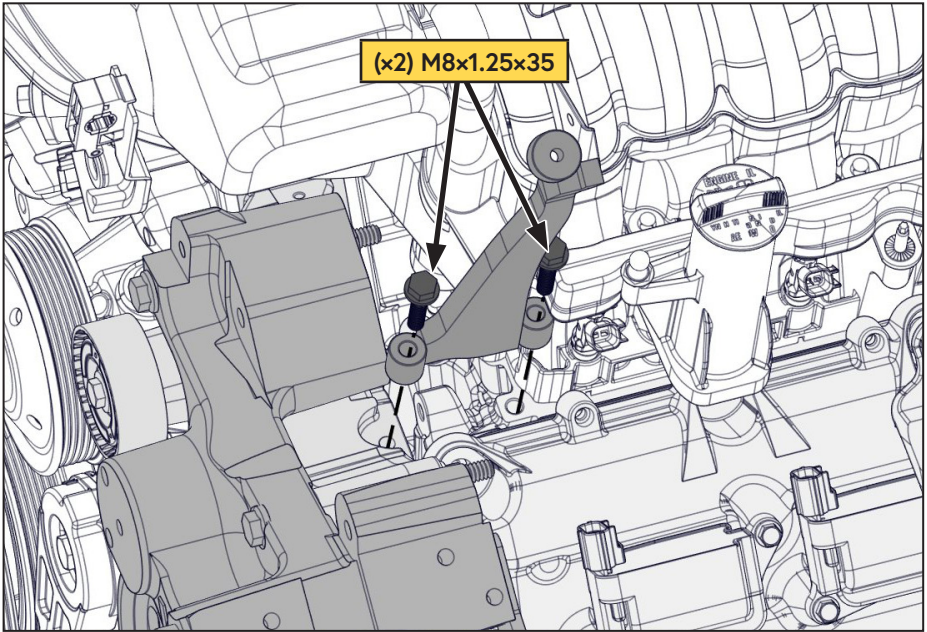

Figure 19 — Install engine back brace
- ☐ Using the (x2) M8x1.25x35 mm fasteners, install the engine brace "back" (Figure 19).